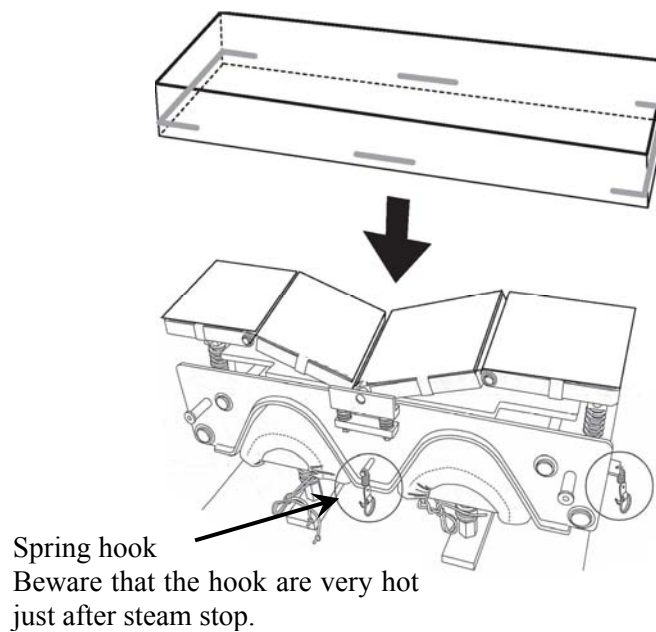

Figure-4
- ⑥ Put collar cover on middle press and hook spring hook on cover extension rods. (Front and rear - 2 place, Right and left - 2 place) (Figure-4)